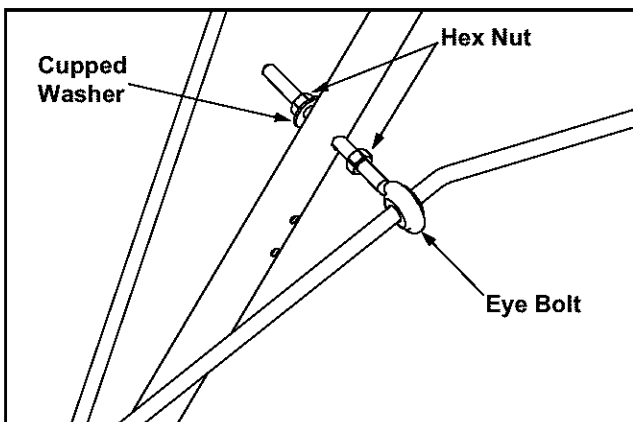

Figure 6
- Thread one hex nut about halfway onto eye bolt on the chute directional control. Insert eye bolt through the hole provided in the left handle. See Figure 6.